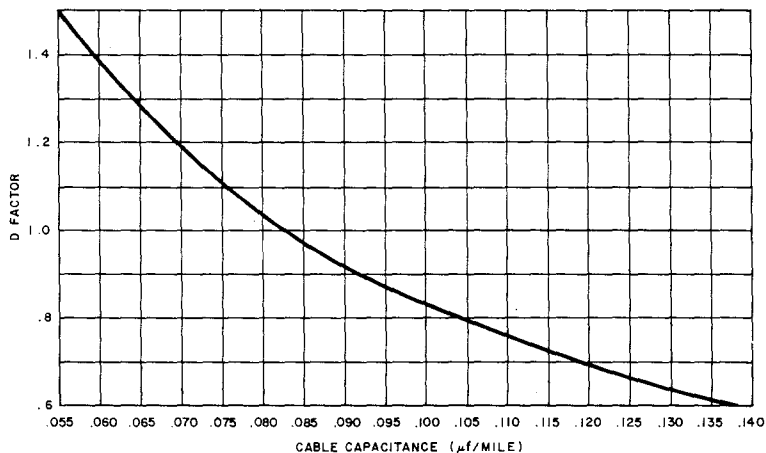

Fig. 5—D Factor Calibration Chart
- (f) Set TEST MODE switch to D FACTOR. Refer to Fig. 5 to determine D FACTOR for cable under test. Adjust D FACTOR control to set this figure on the D FACTOR meter scale.
FACTOR from Fig. 5. Since the pair is open at the end of the cable, the test set will measure the entire length of the cable.